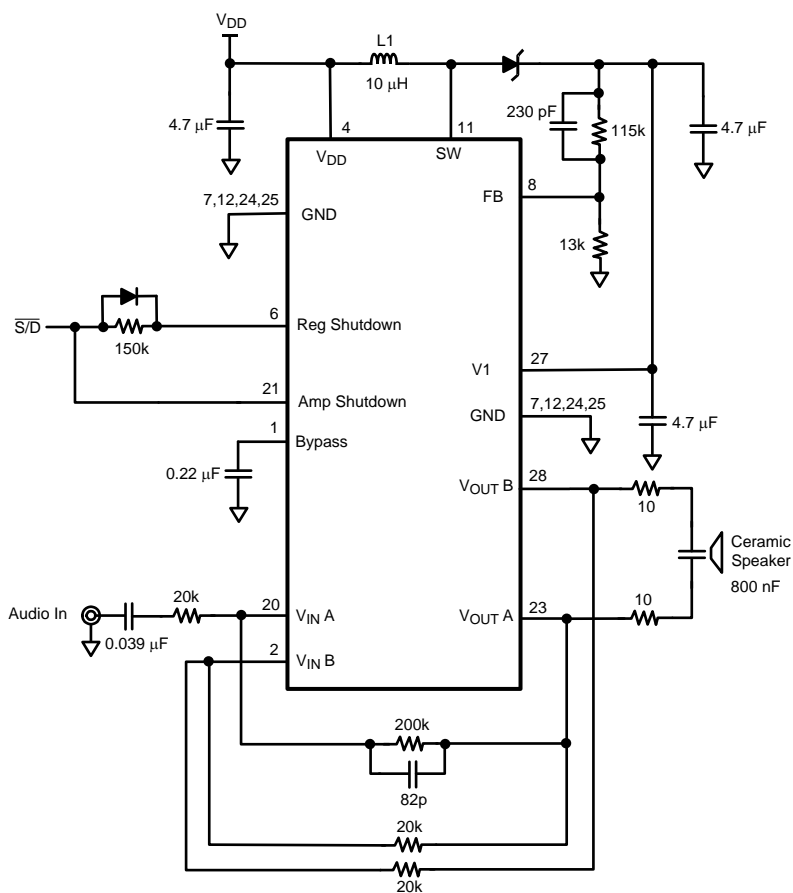

Figure 2. Typical Audio Amplifier Application Circuit
- (1) All voltages are measured with respect to the GND pin, unless otherwise specified.
- (2) *Absolute Maximum Ratings* indicate limits beyond which damage to the device may occur. *Operating Ratings* indicate conditions for which the device is functional, but do not guarantee specific performance limits. *Electrical Characteristics* state DC and AC electrical specifications under particular test conditions which guarantee specific performance limits. This assumes that the device is within the Operating Ratings. Specifications are not guaranteed for parameters where no limit is given, however, the typical value is a good indication of device performance.
- (3) The maximum power dissipation must be derated at elevated temperatures and is dictated by T_{JMAX} , θ_{JA} , and the ambient temperature, T_A . The maximum allowable power dissipation is $P_{DMAX} = (T_{JMAX} - T_A) / \theta_{JA}$ or the given in Absolute Maximum Ratings, whichever is lower. For the LM4960 typical application (shown in Figure 2) with $V_{DD} = 12V$, $R_L = 4\Omega$ stereo operation the total power dissipation is 3.65W. $\theta_{JA} = 35^\circ\text{C/W}$.
- (4) Human body model, 100pF discharged through a 1.5k Ω resistor.
- (5) Machine Model, 220pF–240pF discharged through all pins.